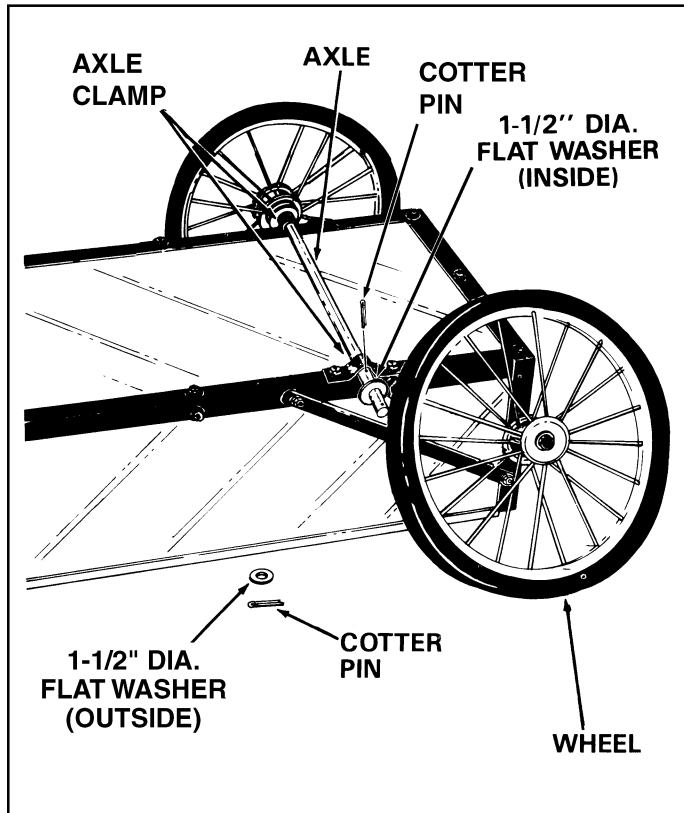

FIGURE 12
23. Slide the axle through the axle clamps. See figure 12.
24. Assemble a cotter pin to the inner hole at one end of the axle. Place a 1-1/2" flat washer, a wheel and then another 1-1/2" flat washer onto the axle. Secure the wheel with a cotter pin assembled to the outer hole at the end of the axle. Repeat step for other wheel. See figure 12.